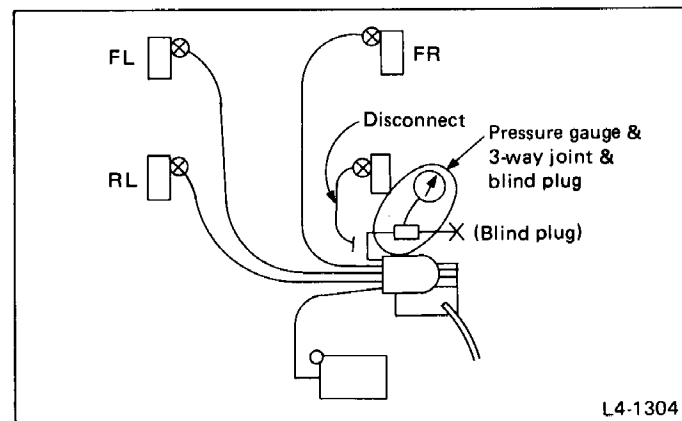

Fig. 79
- 1) Connect a pressure gauge to the right front solenoid valve (for example). See Fig. 79.